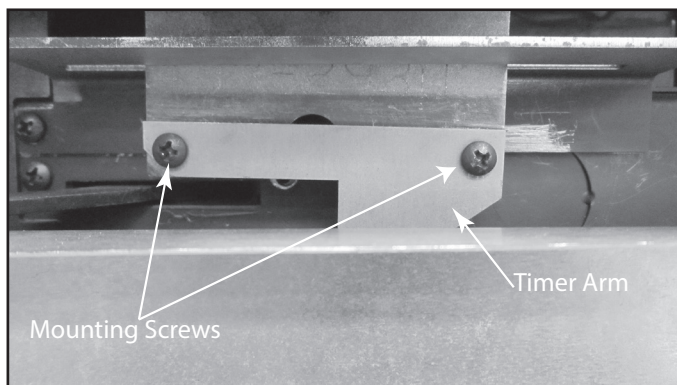

Figure 4.15 Remove Mounting Screws
- Remove the (2) screws holding the timer arm. See Figure 4.15